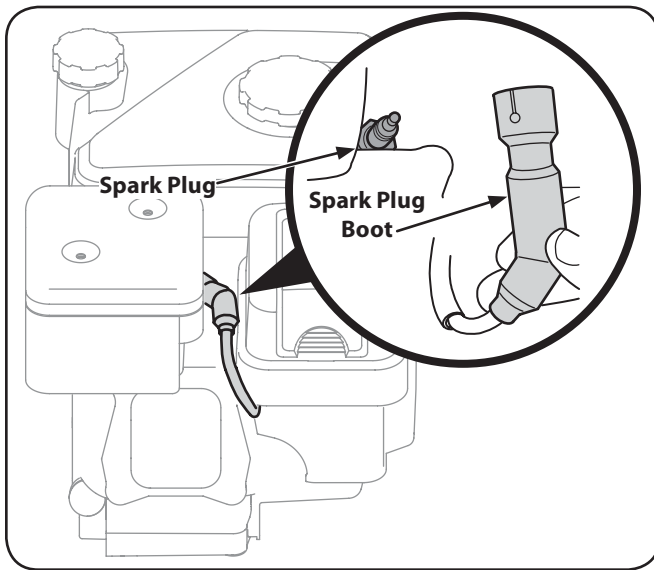

Figure 6-3
- Remove the spark plug boot and use a spark plug wrench to remove the plug. See Fig. 6-3.